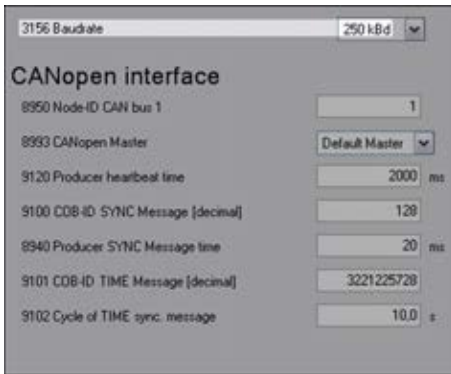

Fig. 169: Baud rate configuration (example ToolKit)
1. In ToolKit configure the baud rate as shown in (Fig. 169).